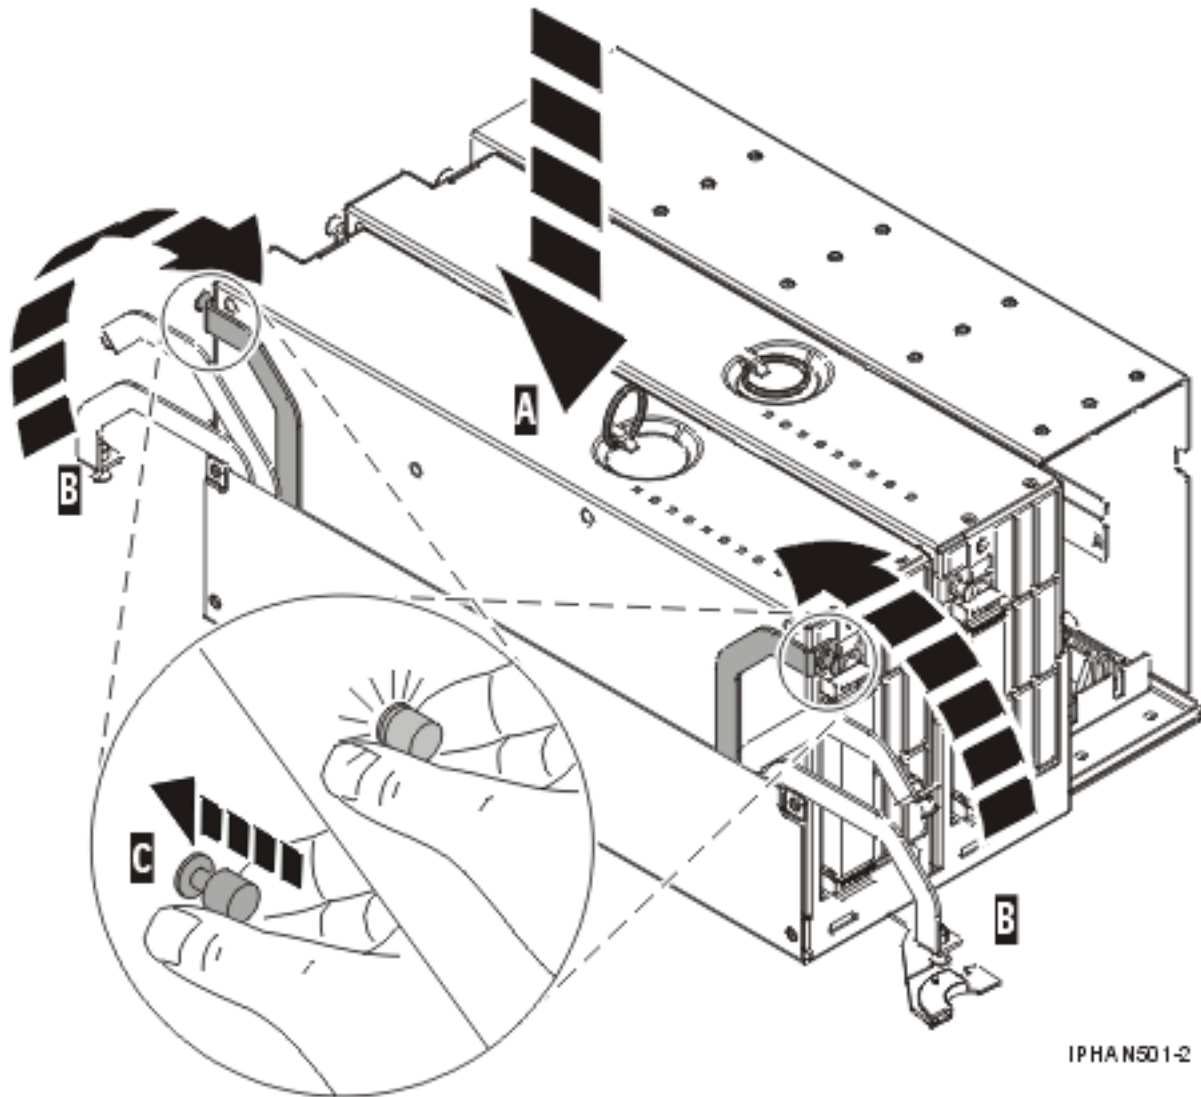

Figure 16. Replace the model 9117-MMA or 9406-MMA backplane assembly
2. As shown in Figure 16 on page 21, place the system processor assembly into the system backplane assembly **(A)** using the location information that you recorded during the removal procedure.